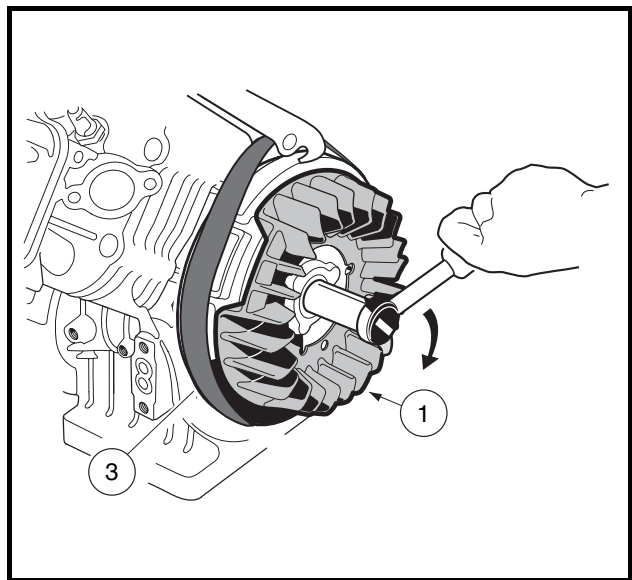

Figure 13-10 Fan and Flywheel Assembly
- Use a strap wrench (3) to keep the flywheel and fan (1) from turning. Tighten the flywheel nut to 63 ft-lb (85.4 N·m) (**Figure 13-10, Page 13-9**). See following **CAUTION**.